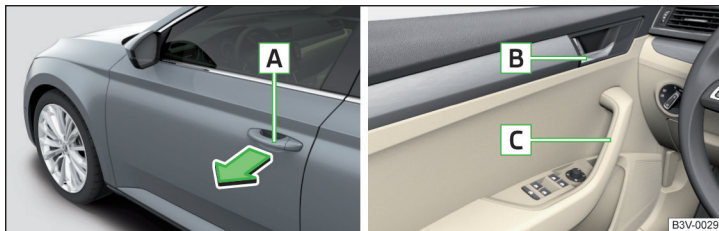

Fig. 52 Door handle/door opening lever
- › To **open from outside**, unlock the vehicle and pull the door handle **A** in the direction of arrow » Fig. 52.